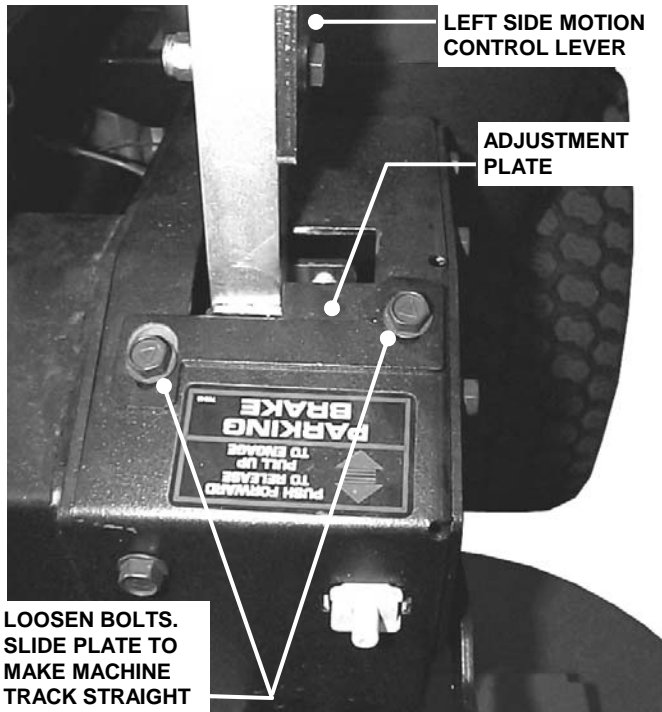

FIGURE 5.12
4. If machine tracks to the left, loosen bolts that secure the right adjustment plate. Move plate rearward to slow the right wheel down. Retighten bolts. See Figure 5.12.
4. Remove old deck belt. Note the belt routing. See Figure 5.12.